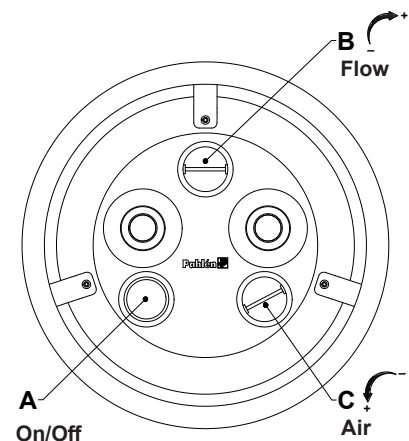

Figure 1.
8. Make sure that the pump's direction of rotations is consistent with the flow of the system. Open the valves. Completely fill the pump with water before starting it with the push-button (A fig.1) on the stainless steel front.
9. The flow can be controlled with the knob (B fig. 1) above the outlet nozzles. Air can be added to the water streams using the knob (C fig. 1) below the outlet nozzles.
The Jet Swim pump is started and stopped by air impulse via the pushbutton (A) on the stainless steel front; see figure 1.
The flow of water can be controlled using the knob (B) above the outlet nozzle; see figure 1.
Air can be added to the water streams using the knob (C) below the outlet nozzles; see figure 1.